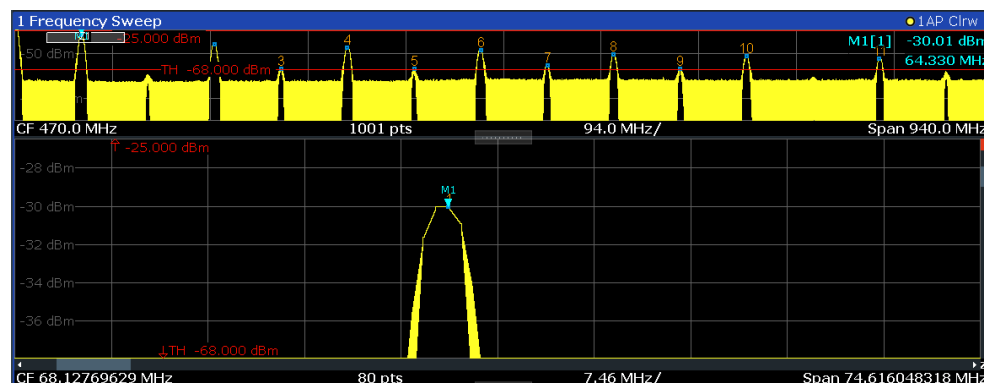

Figure 5-16: Zoomed display around a peak
3. In Figure 5-16, the enlarged peak is represented by a very thick trace. This is due to the insufficient number of sweep points. The missing sweep points for the zoomed display are interpolated, which provides poor results. To optimize the results, we will increase the number of sweep points from the default 1001 to 32001.